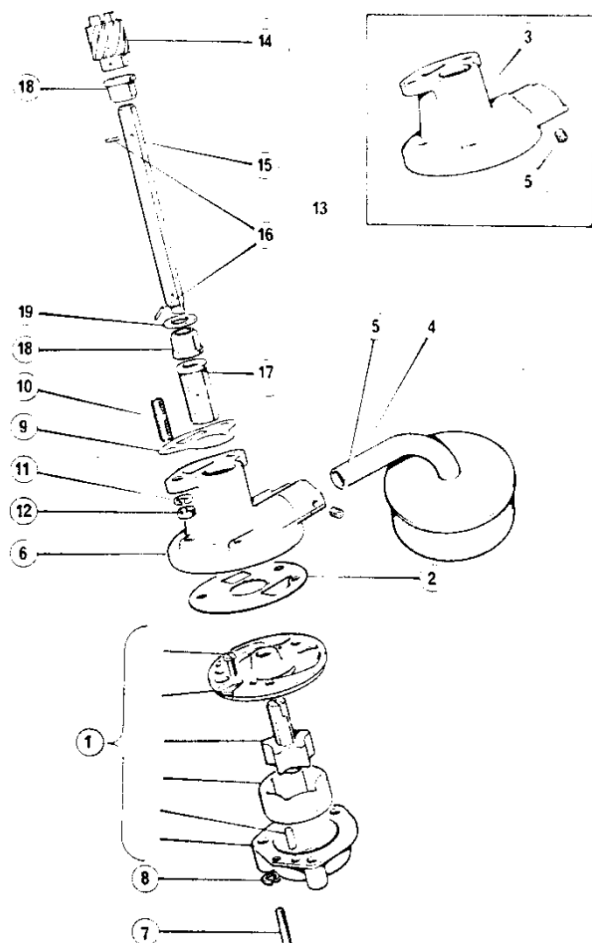

Figure 5 Oil Pump - Exploded
5. Unscrew two nuts complete with lock washers and remove the oil pump assembly, including strainer, from the cylinder block (**Figure 5**).